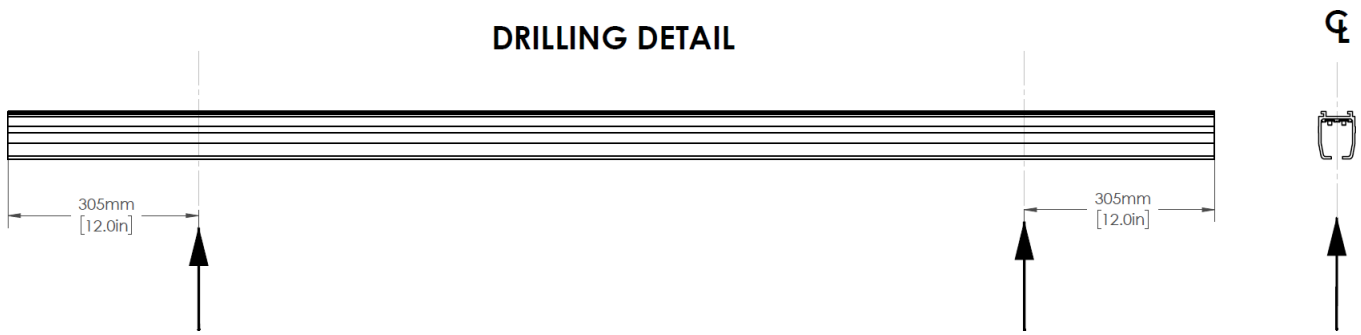

Figure 314: **Drill from the Bottom Up, Through the Channel**
- As shown in Figure 314, drill from the bottom up, through the channel, to ensure to drill between the metal segments of the TransStrip.